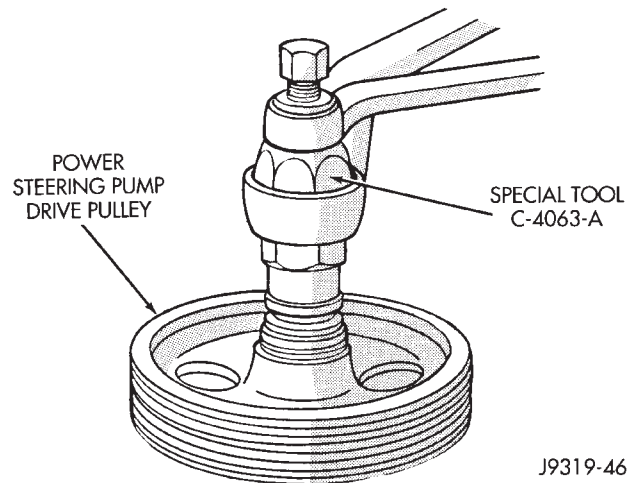

Fig. 5 Install Drive Pulley (Typical)
(1) Install 3 adjustment bracket-to-pump bolts. Tighten to 28 N•m (21 ft. lbs.) torque.
(2) Install pulley on pump. Refer to Drive Pulley Replacement in this section (Fig. 5).
- (1) Install pulley with Installer C-4063 (J-25033-B) (Fig. 5). Do not use the tool adapters.